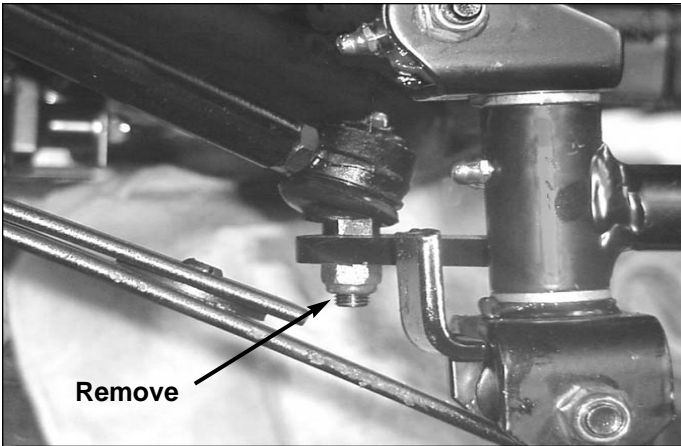

Figure 3 - Disconnect Tie Rod Ends
- Move nuts securing each tie rod end to left and right steering arm assemblies. Lift tie rod end from steering arms. See Figure 3.